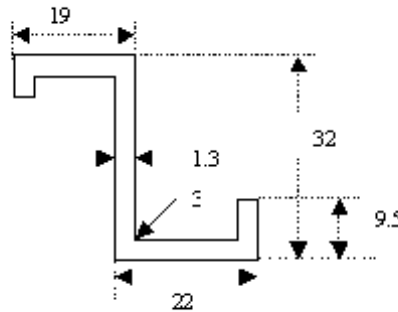

Figure 1
1. "Z" stiffener shown in Figure 1 is one of the several stiffeners riveted to skins of thickness 0.8mm and of same material as the stiffener. If the length of the panel is 500mm what will be the column failing stress if end fixity  $c=1.5$ . Use method involving sheet effective widths. (All dimensions are in mm). [16]